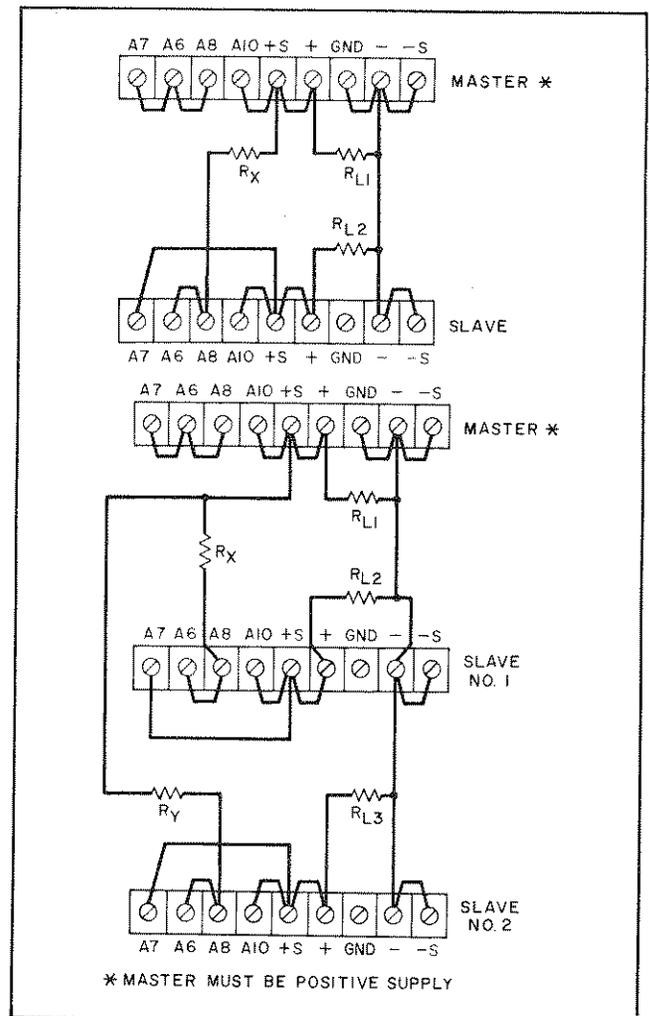

Figure 3-10. Auto-Tracking, Two and Three Units
**3-35 AUTO-TRACKING OPERATION (See Figure 3-10)**
3-36 The Auto-Tracking configuration is used when it is necessary that several different voltages referred to a common bus, vary in proportion to the setting of a particular instrument (the control or master). A fraction of the master's output voltage is fed to the comparison amplifier of the slave supply, thus controlling the slave's output. The master must have the largest output voltage of any power supply in the group (must be the most positive supply in the example shown on Figure 3-10).